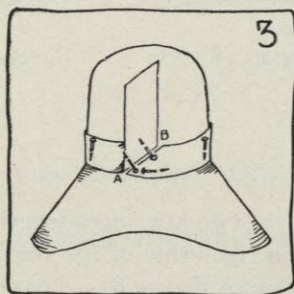

FIG. 3.
e. If the measurement you wrote down in Section 1 b (2) is no longer than the true bias folded over (see Section d) or already cut, use a true bias; but if it is from 1 to 6 inches longer, then fold over a long bias, as shown in Section 5 or Section 6 of Job 15 (see Figures 3, 9 A and 9 B
- (2) Stretch and pin strip around the base of the crown until you reach the point where you started (see point A in Figure 3).
- (1) Fold back the last end of the strip so that it just meets the first end (see line A B in Figure 3). If using a true bias, be sure to fold the end back exactly on the straight thread of the material, and make it slant in the same direction as the first end of the bias strip which it meets.